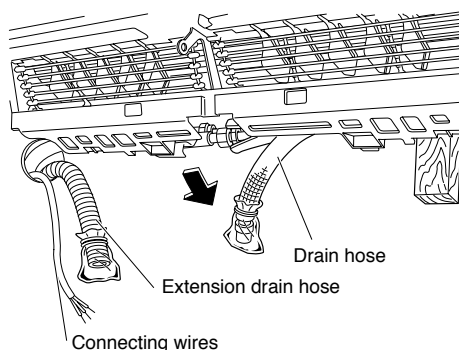

Fig. 35
- (2) Place a plastic sheet under the drain pan so that the residual water in the drain will not make the floor wet. (Fig.35)